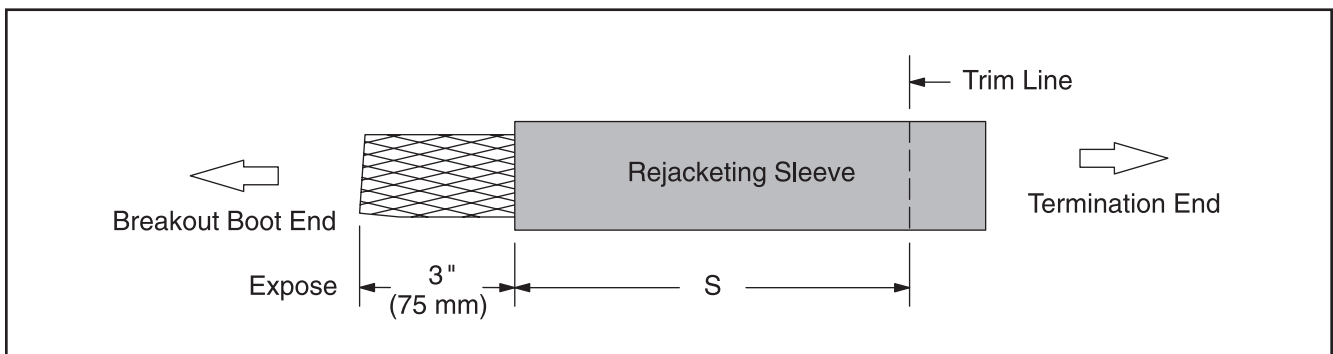

Figure 6
4.4 Using scissors, trim re-jacketing sleeve assembly to length required (Figure 6). Cut tubing and inner braid together.